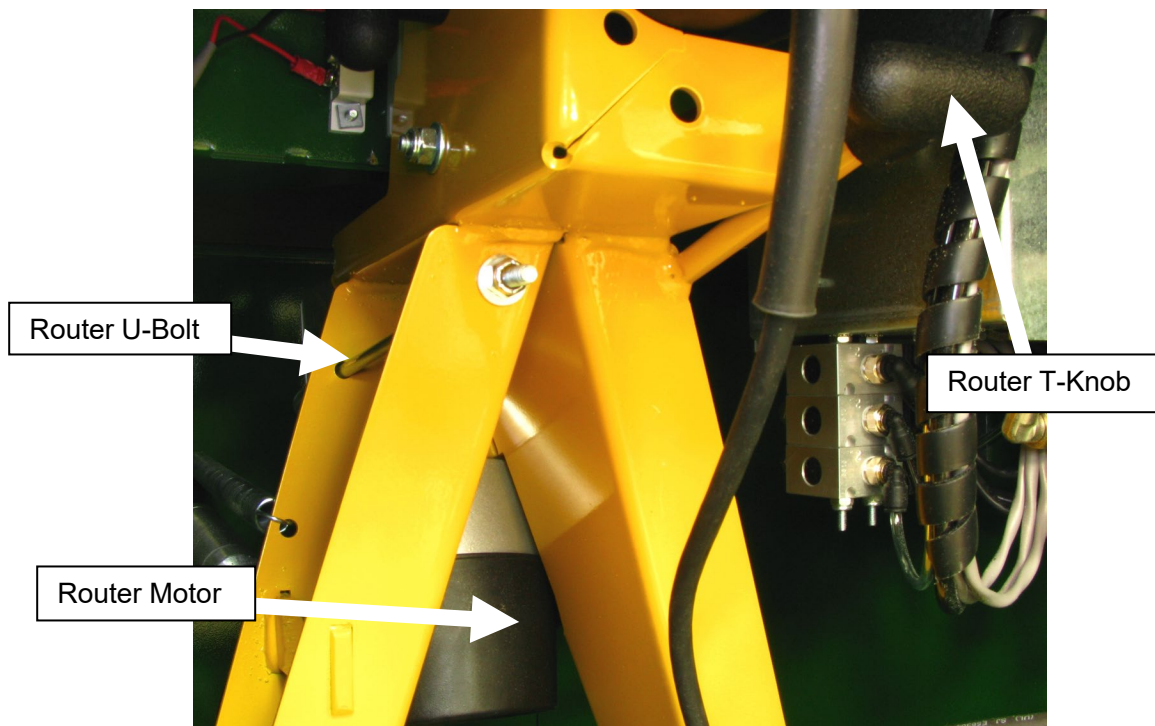

Fig 8
2. Open the rear door and locate the Drill Motor. Just to the right is a T-Knob that tightens a large U-Bolt holding the Router Motor in place. **See Fig 8.**